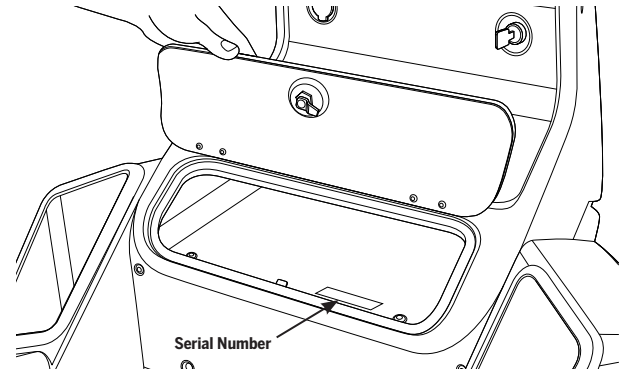

Figure 6: SE-3 Patroller Serial Number Location
2. Locate the 12-digit SE-3 Patroller serial number (**Figure 6**).